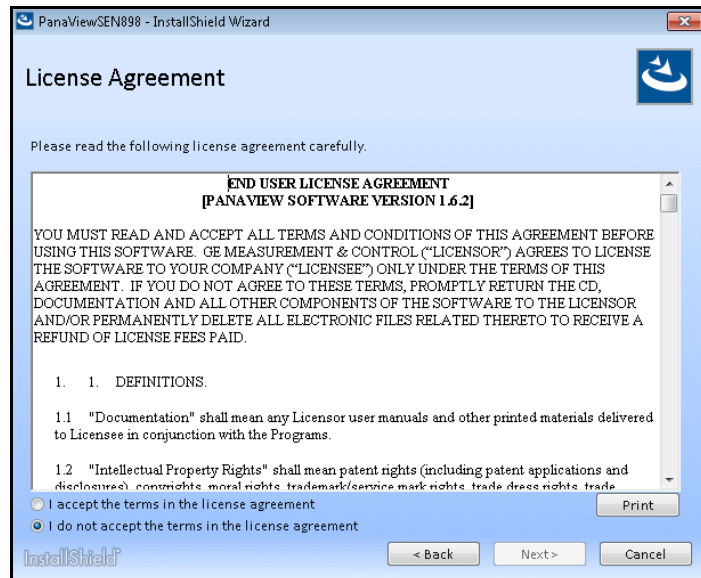

Figure 4: Licence Agreement Screen
3. Next, the *End User Licence Agreement* shown in *Figure 4* below opens. Click the radio button for “I accept the terms in the licence agreement” and Click [Next] button to continue.